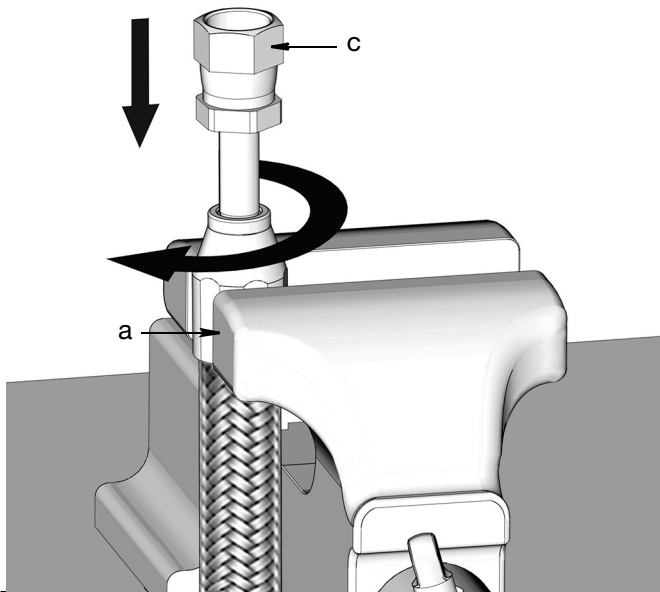

FIG. 62
7. Lightly push nipple (c) into socket (a). Screw nipple clockwise into socket and hose (FIG. 62).